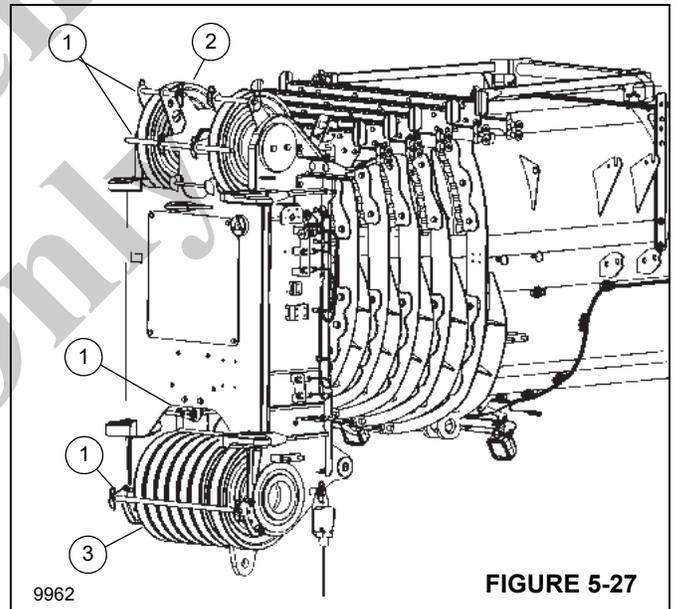

FIGURE 5-27
2. Remove the retaining rods (1, Figure 5-27).
3. Guide the rope over the upper boom nose sheave (2).
4. Guide the rope over the lower boom nose sheave (3).
6. Reinstall all the retaining rods (1) and secure with retaining clips.
1. Remove the retaining rods (1, Figure 5-27).
3. Take the hoist rope off of the upper boom nose sheave (2) and place it on the ground on the left side. Spool the hoist rope on the hoist drum.